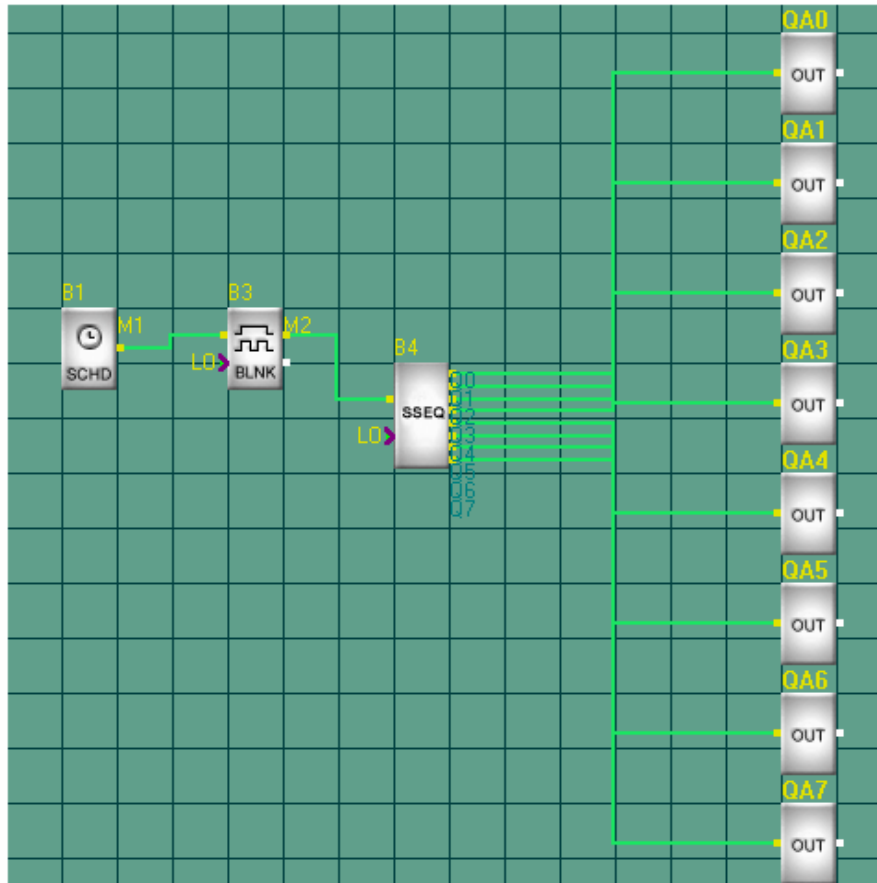

Fig. 10.29 Fountain Control Function Diagram
In Fig. 10.29, the program is the control system of the eight fountains. B1 is the time ON/OFF function block. And the time module is set as DAY. The ON time is set as 17:30 and the OFF time is set as 21:30. Thus every day from 17:30 to 21:30, the output of B1 is high electronic level to activate the SET input of B3. The SET pin of B3 is LO, which means it will never reset B3. Set the time parameter (T) of B3 as 5 and time unit as S. Thus every day from 17:30 to 21:30, the output wide of the output input of B3 is 5S. The pulse of B3 is passed to SET pin of B4. B4 is the stop sequence output function block. The RST pin is LO, which means that it will never reset B4. QA0-QA7 will separately control the engine of each set of the eight watering sets. The SET pin will receive a pulse from B4 and open the fountain engine. When all the engines are open, it will receive a pulse to close the seven engines controlled by QA1-QA7. Thus the point 1 and point 2 of the requirement will be realized. When it is 21:30, the time function bock of B1 will be low electronic level and SET pin of B3 will be closed. B3 will stop outputting pulse and only output low electronic level to close the SET pin of B4. Thus the eight output of B4 will close the controlled relay and the connected engines also stop run.